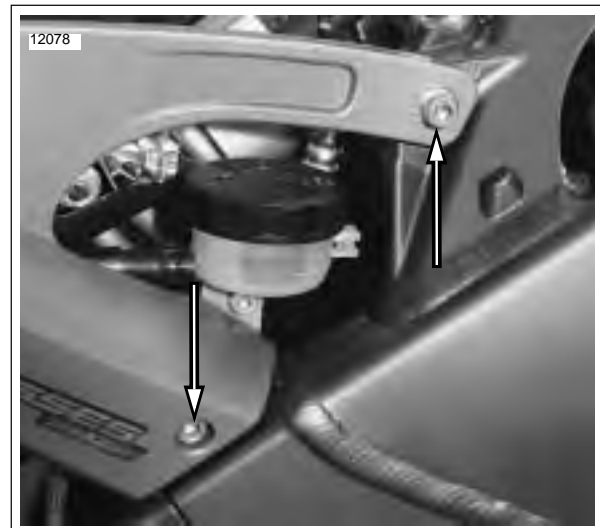

Figure 2-132. Front Outside Fasteners Right Side Tail Section
12. See Figure 2-132. Remove the final two fasteners on the outside of the right tail section and remove the right side tail section.